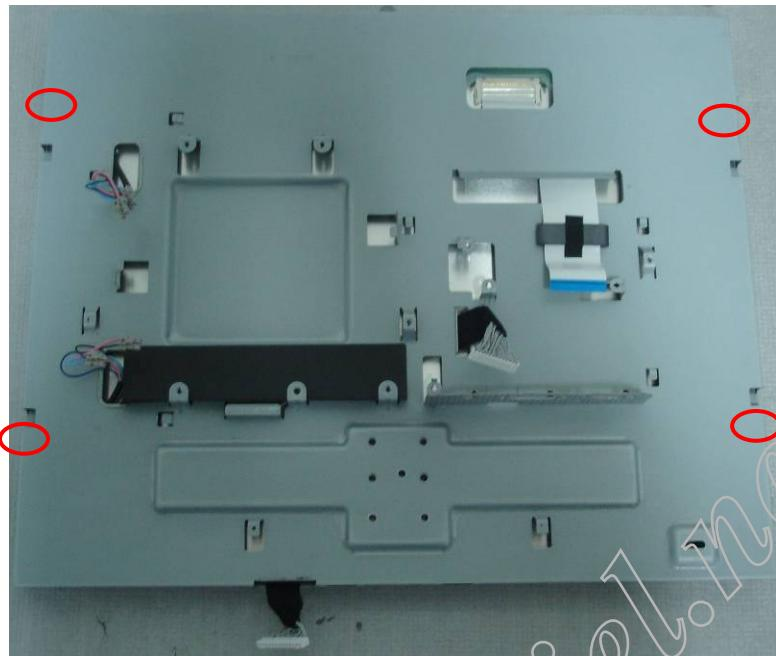

Fig.9
**9. Remove the main frame as Fig.9.**
Remove the 4 screws as Fig.9 to remove the main frame.